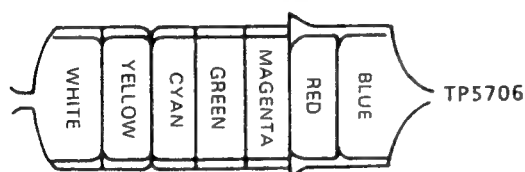

Figure 2-15.
3. Observe the output of TP5706 with an oscilloscope, and adjust T5703 so that the chroma signal becomes flat as shown in Fig. 2-15.